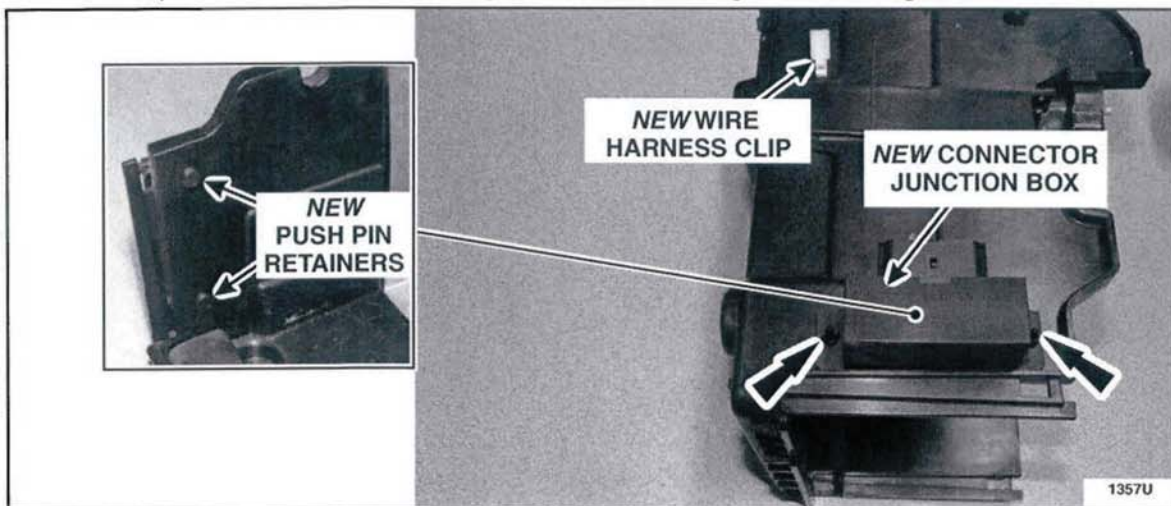

FIGURE D4
SERVICE TIPS: Remove the two (2) push pin retainers from the connector junction box, prior to installation. While installing the connector junction box ensure that the push pin retainers are installed in the proper orientation. See Figure D4.
- Deburr the four (4) previously drilled holes on the battery tray as necessary.
- Attach the *new* connector junction box to the battery tray using the two (2) *new* push pin retainers. Install the *new* push pin retainers so the heads of the retainers are on the **inside** of the battery tray. See Figure D4.
- Install the *new* wire harness clip onto the battery tray. The christmas tree portion of the *new* wire harness clip is to be installed into the larger of the two mounting holes. See Figure D4.